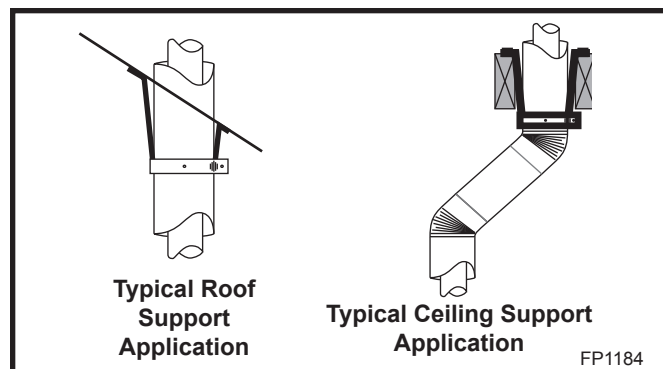

Fig. 28 Venting supports.
- 7DVCS supports offsets. (Fig. 28) This application will require that you first determine the roof pitch and use the appropriate starter kit. (Refer to Venting Components List)
7. Install roof support (Fig. 44) and roof flashing making sure upper flange is below the shingles. (Fig. 28)